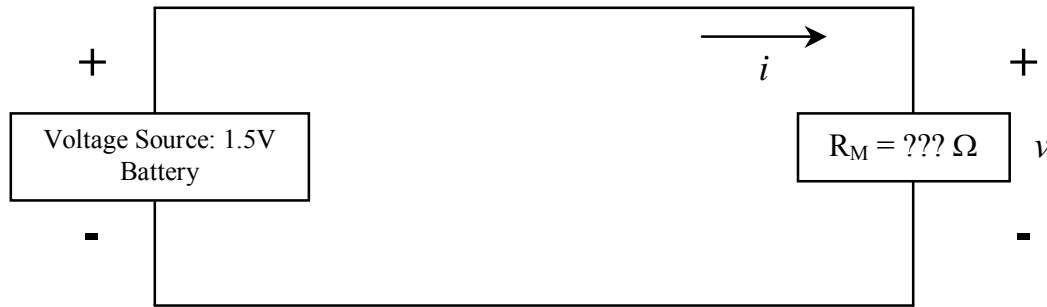

Figure P2-1 - Circuit for Procedure 2.a.
- a. (2 points) Draw the circuit schematic diagram for the circuit in Figure P2-1 using standard symbols for resistor and battery.
- b. (1 points) Construct the circuit in Figure P2-1 on your breadboard with  $R_M$  being the mystery resistor. See below for construction hints. Measure the voltage  $v$  across  $R_M$ . Record the value.